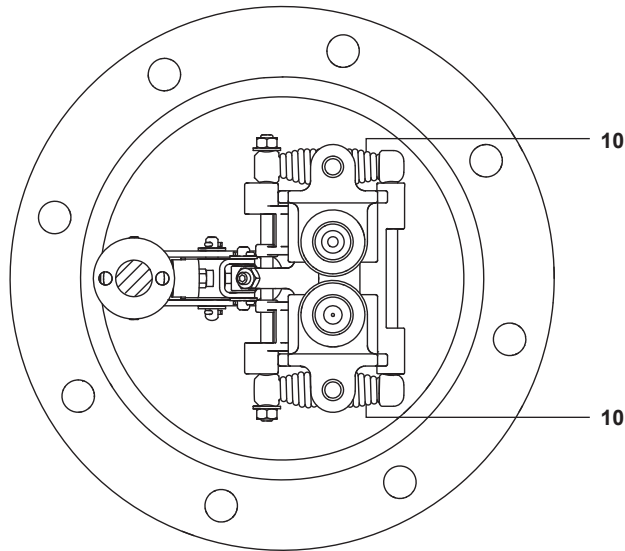

Fig. 9
3. Visually check springs (item 10, Fig. 9). If defective, remove nuts and washers and slide spring assemblies from shafts. Replace with new spring assemblies (see Step 5e - spring setting) and install new nuts and washers, using Loctite 620 adhesive on threads of shaft.